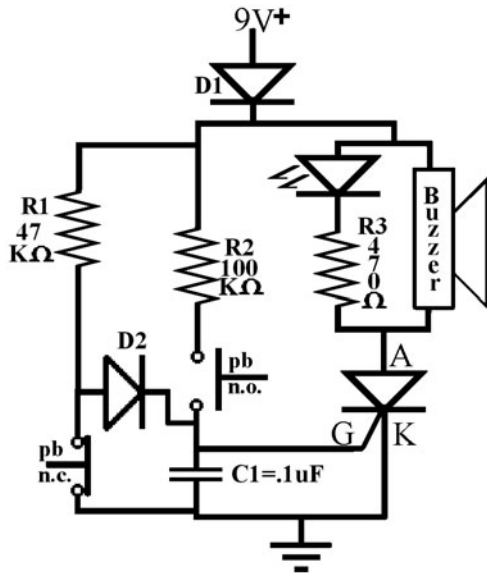

Figure L13-7
Now modify your circuit to make a simple but professional-quality alarm system by adding three more parts to your working breadboard, as shown in Figure L13-7.
4. Use Figure L13-7 to follow the current’s path when the PBNC is in its normal position.